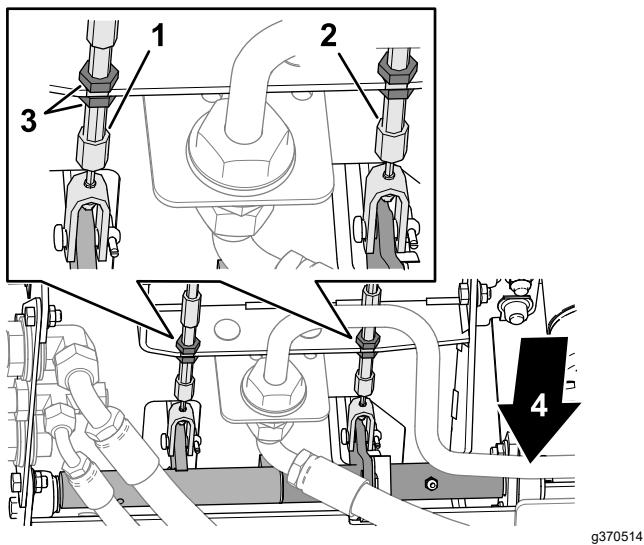

Figure 160
- 3. Loosen the front jam nut on the threaded end of the brake cable (Figure 160).